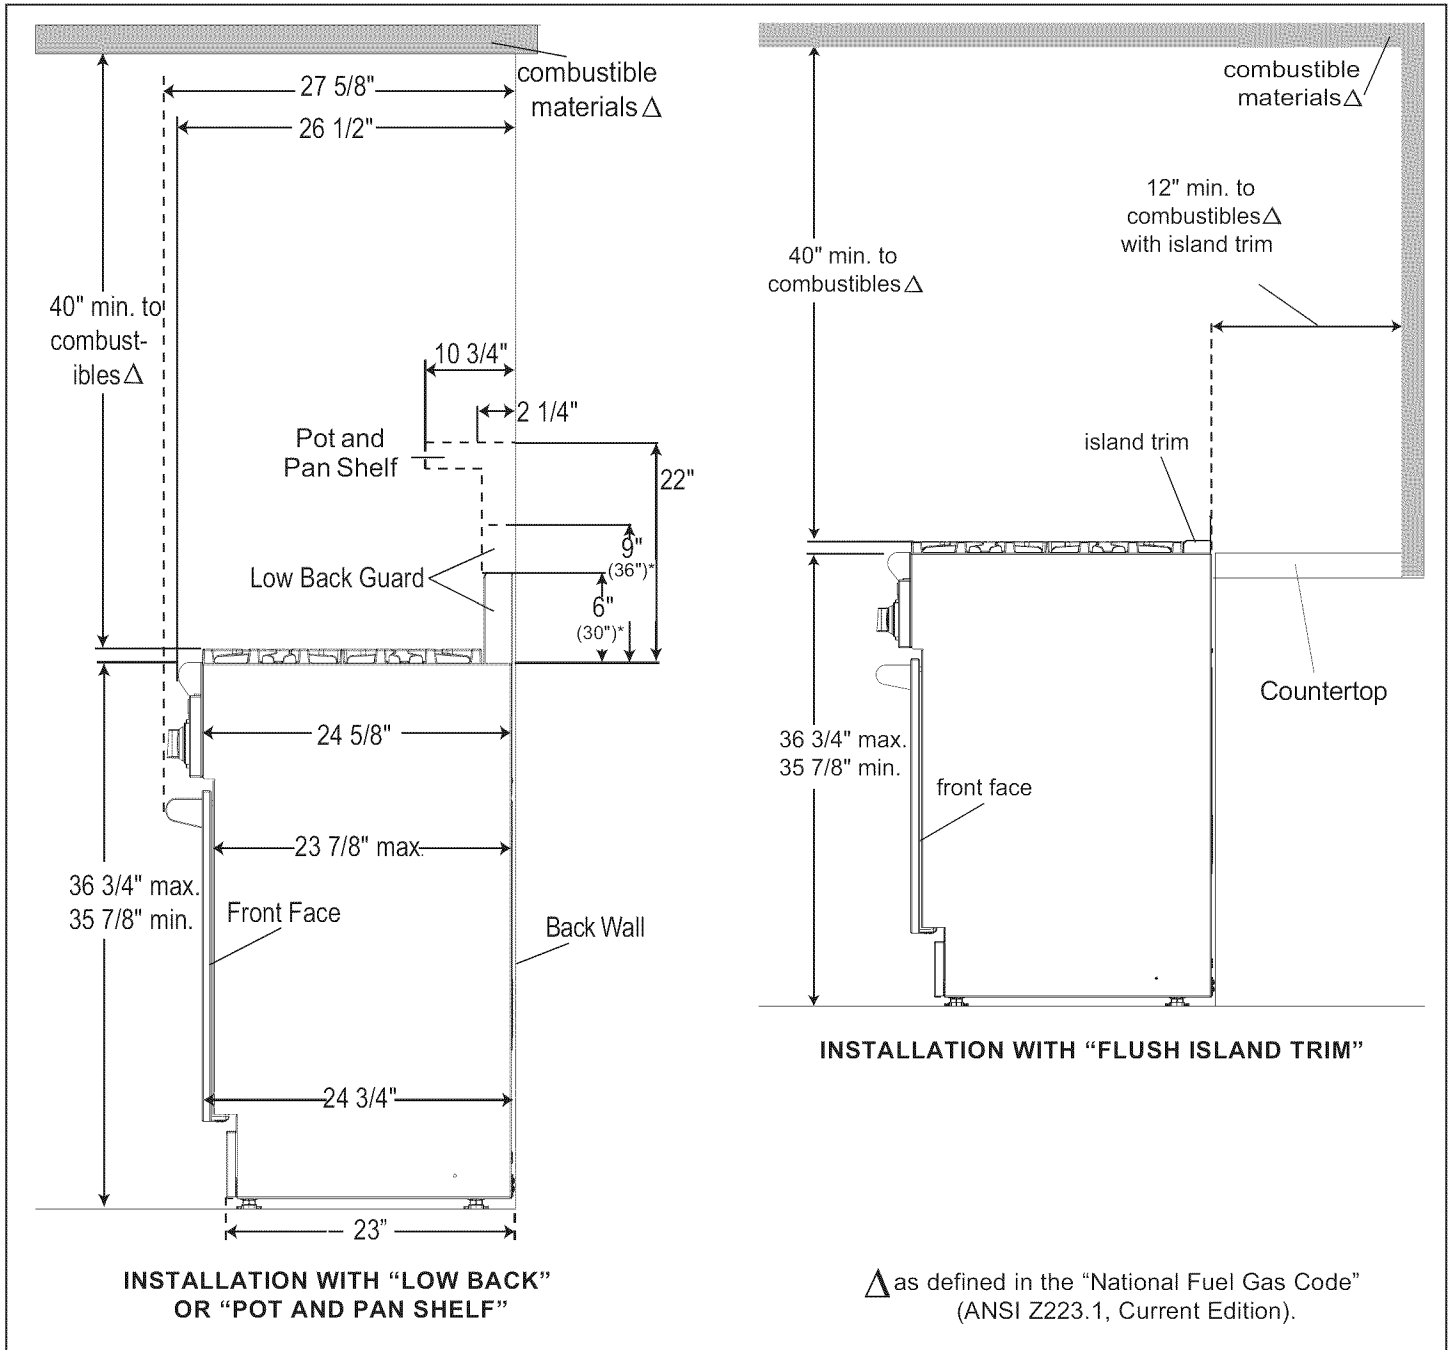

Figure 2: Side View
2. These ranges may be recessed into the cabinets beyond the edge of the front face of the oven (See Figure 2).
5. When there is less than a 12" horizontal clearance between combustible material Δ and the back edge of the range above the cooking surface, a Thermador Low Back or Pot and Pan Shelf must be installed. (See Figure 2). When clearance to combustible material Δ is over 12", a Thermador Flush Island Trim may be used. Figure 2 indicates the space required for each type of backguard.
8. A (10) inch minimum clearance is needed when the range is installed beside a combustible side wall.
- The range has an approximate shipping weight as shown in Chart A. The grates, griddle plate and frame, burner caps, front kick panel and oven racks must be removed to facilitate handling. This will reduce the weight as shown in Chart A. See Figure 2 on page 6. **Do not remove the griddle assembly.**